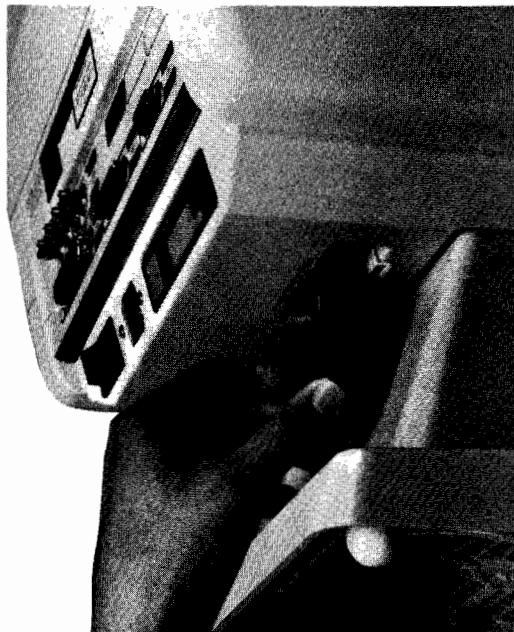

Figure 10-1. Removing the Batteries
The non-volatile portion of memory that contains the terminal's configuration data is protected against destruction by two "AA" batteries located below the mainframe at the pedestal rear. Figure 10-1 shows the rear panel and the location of the batteries.
1. Grasp the battery support at points A and B as shown in Figure 10-1.